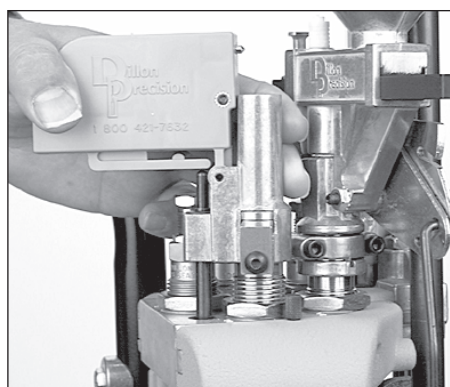

FIG 104
I. Station 3 – Installation of the Powdercheck System FIG 104: